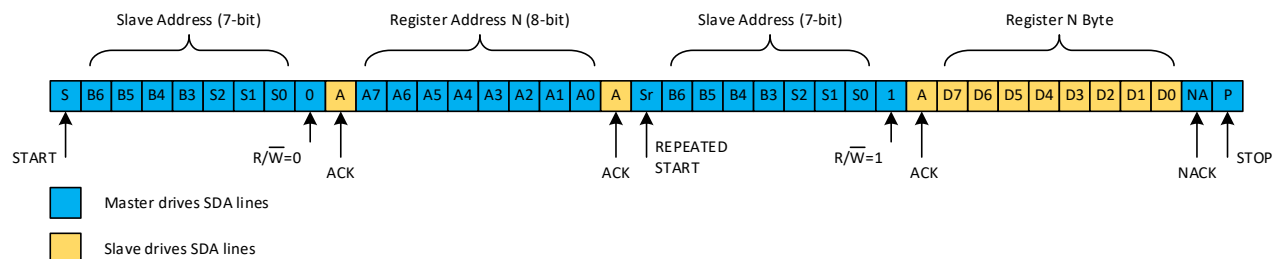

Figure 23: I²C Read Single
- To stop the communication, the controller shall send a not-acknowledge bit (NACK) bit, by pulling the SDA line to 1, followed by a stop condition (Figure 23).